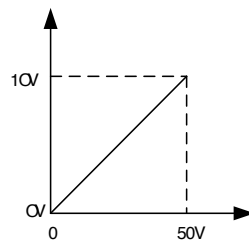

Figure 5-14 Corresponding relation of given voltage at manual mode
4. Corresponding relation of given voltage at manual mode is shown in Figure 5-14.